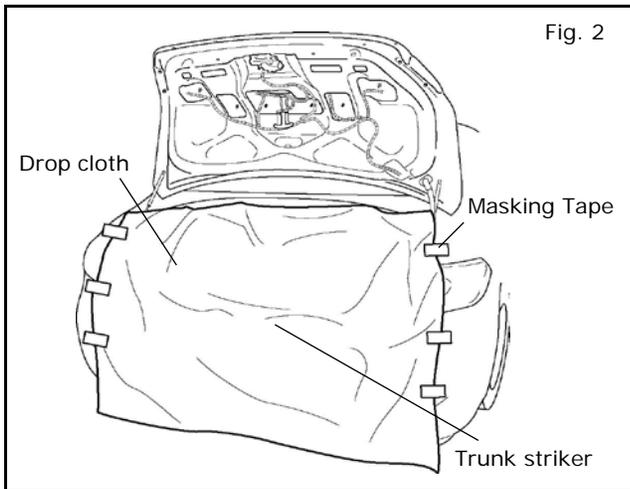

Fig. 2
- 5) Attach the drop cloth to the trunk opening with masking tape. See. Fig 2.